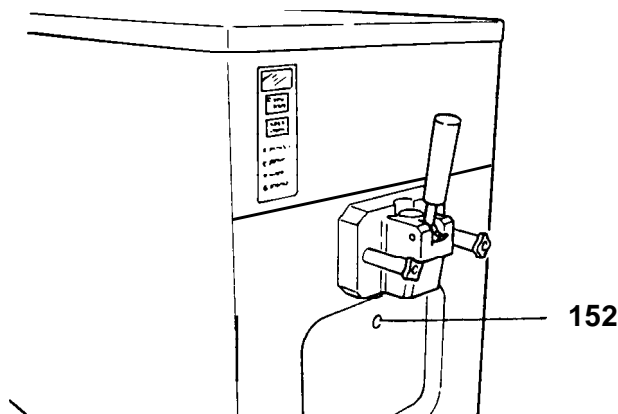

Figure 6
C) Photo Sensor Switch -(Refer to Figure 6)